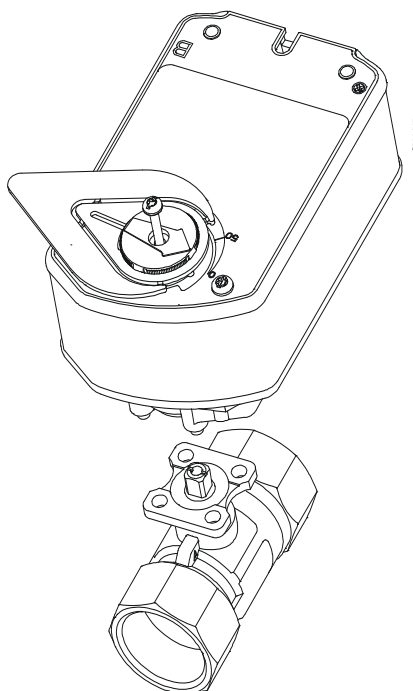

Figure 15: Mount the actuator
7. Install the actuator on the ball valve (Figure 15). Tighten the actuator mounting screw to a torque of 10 to 12 lb-in. (1.1 to 1.4 N-m) and snap the large adjustable pointer into place.